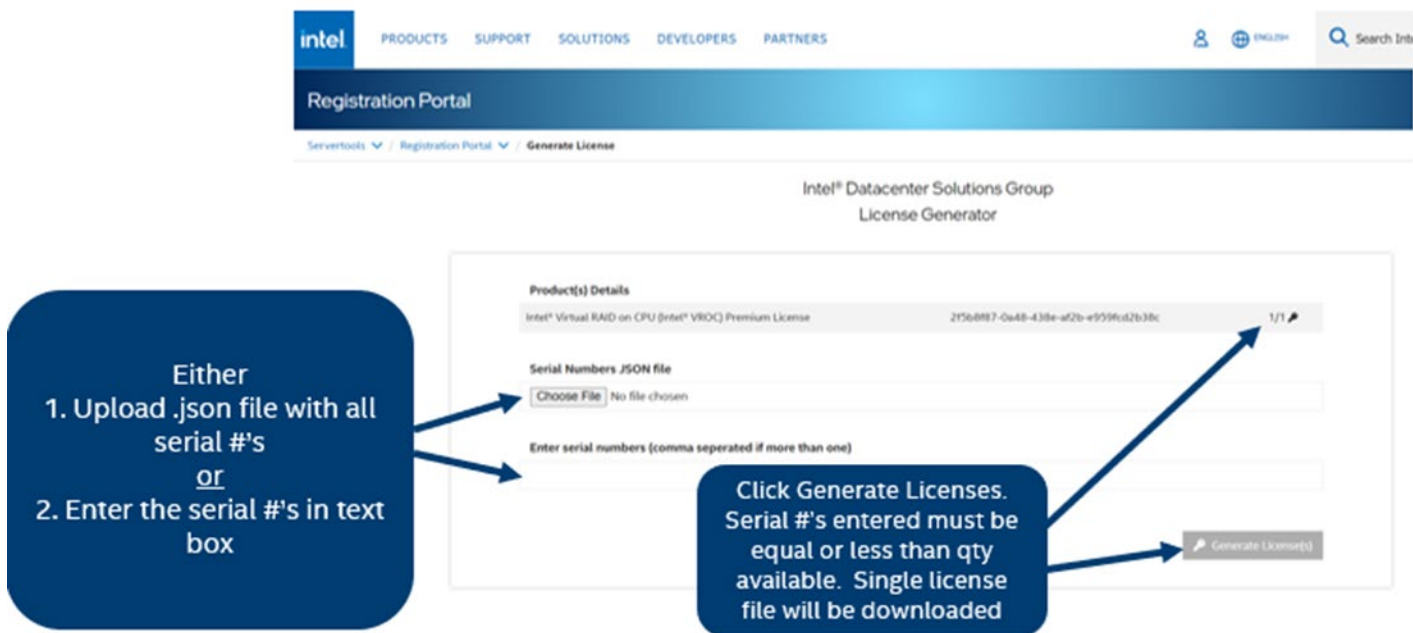

Figure 74. Activate Key for Intel® Virtual RAID on CPU Standard/Premium Software Key
- Multiple board serial numbers can be entered in the text box or by uploading a .JSON file with the list. Only a single license file will be downloaded. This single license file will work with all systems that match one of the serial numbers. (see Figure 74)